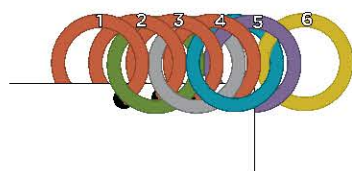

FIG. 7
11. Close the open (blue) jump ring. It should lie in front of the previous linking (white) jump ring, 1 base-row jump ring added (**FIG. 7**, jump ring 6).